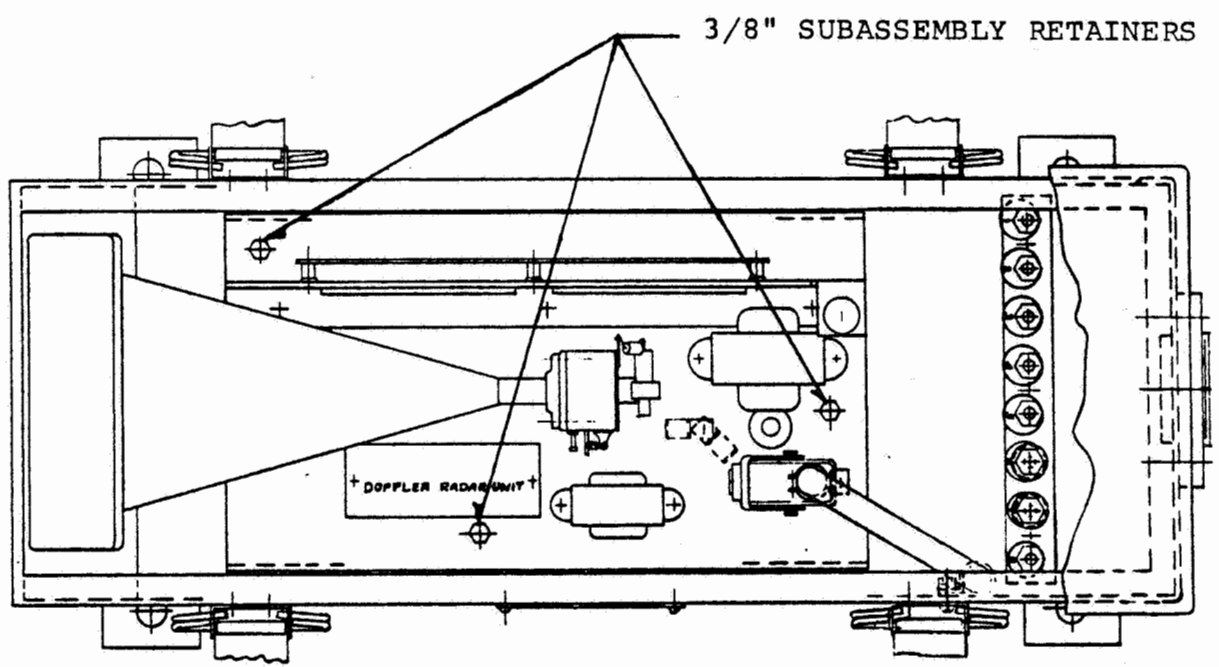

Figure 6-1. DR-40 Disassembly Diagram
2. Disconnect J1 connector, as located in Figure 6-1.
3. Using a 3/8" socket drive tool, remove 3 retaining nuts on base plate, also indicated in Figure 6-1.